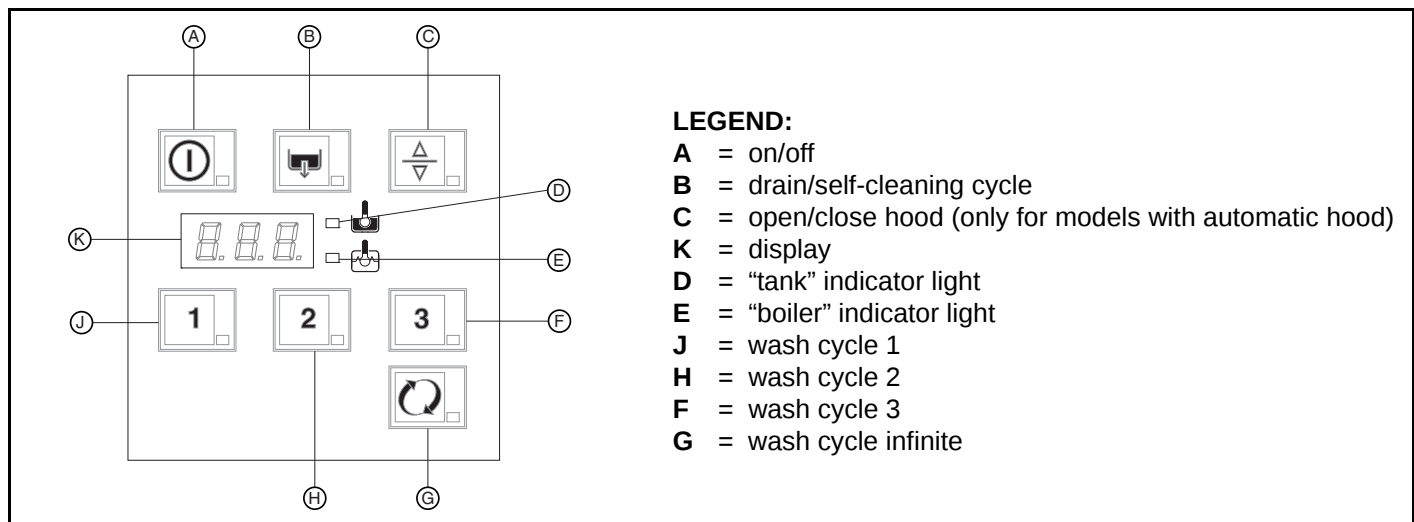

Figure 13
The indicator light of the on/off button “A” (Figure 13) comes on, indicating that the dishwasher is powered and that water is being introduced and heated. The word “FILL” is shown on the display during the entire filling and heating stage:
To display the boiler temperature during heating of the tank, open the hood and press "J" button (Figure 13).
For lightly soiled dishes: press "J" button (Figure 13) (see table of times).
For normally dirty dishes: press "H" button (Figure 13) (see table of times).
For very dirty dishes: press "F" button (Figure 13) (see table of times).
For particularly dirty dishes with dried food residue, dishes with a special shape or for other specific needs of the user: press "G" button (Figure 13), which initiates a continuous wash until the operator selects an automatic cycle.
- Select the drain cycle by pressing "B" button (Figure 13).
- Switch off the dishwasher by pressing "A" button (Figure 13).
Close the hood and select the drain cycle by pressing the "B" button (Figure 13).
Switch off the dishwasher by pressing "A" button (Figure 13)
Press on/off "A" button (Figure 13).
Close the hood and start the **Cycle III** by pressing "F" button (Figure 13). The wash cycle duration is 2 minutes.